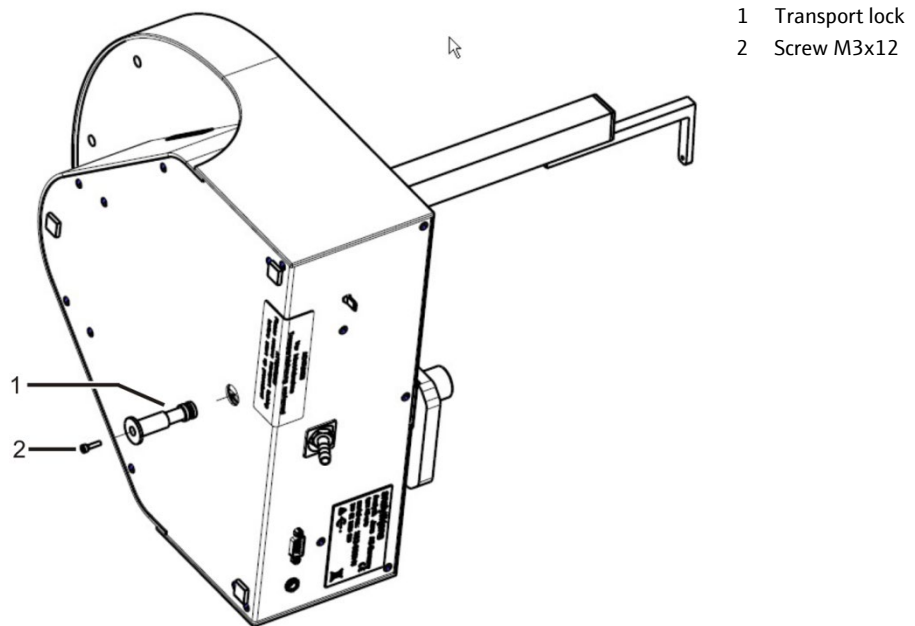

Fig. 21 Transport lock on autosampler AS vario ER
1. Place the autosampler on the side as shown in Fig. 21.
2. Unscrew the screw (2 in Fig. 21) with the Allen wrench (included in the scope of delivery) and remove the red transport lock.